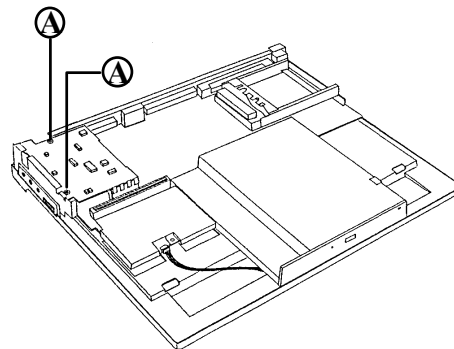

FIGURE 8-3
10. TO REMOVE THE DC/DC BOARD, REMOVE TWO SCREWS (FIGURE 8-3 A) AND UNPLUG IT FROM THE SYSTEM BOARD.